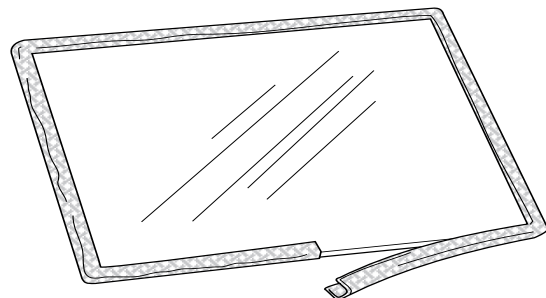

Figure 50. Wrap the gasket around the glass panel.
1. Wrap the new gasketing material evenly around the edge of the glass, peeling back the protective strip to expose the adhesive as you go. See fig. 50. Press the adhesive side down onto the glass surface. Do not stretch the gasket.